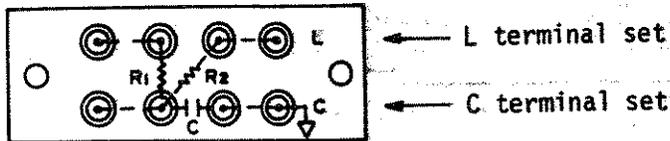

Figure 4-6. HP 16074A Quasi-inductor.
2. Connect the "L" terminals of the 100mH quasi-inductor directly to the 4274A UNKNOWN terminals. See Figure 4-6.